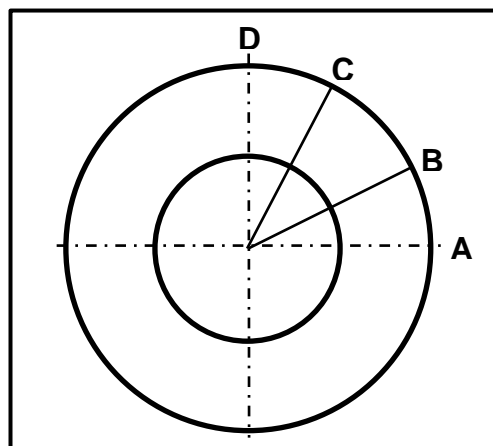

FIGURE 11.2
- 11.2 FIGURE 11.2 shows a truncated cone. The vertical height of the truncated cone is 600 mm, and the base and top diameters are 600 mm and 400 mm respectively. Answer the questions that follow.